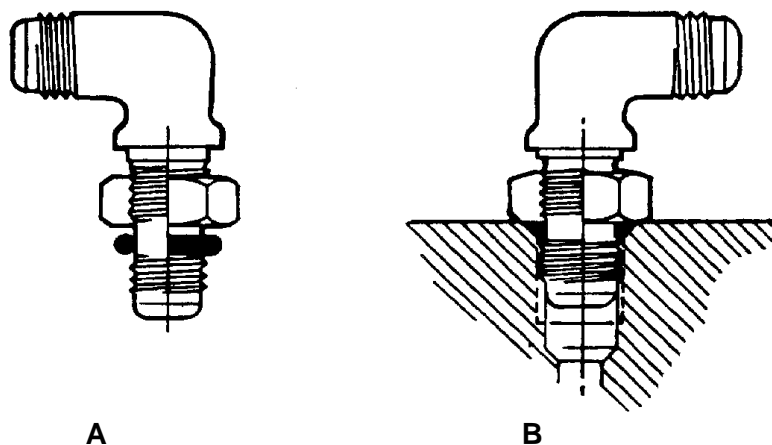

**Figure 1 - Positioning-Type Fittings for Hydraulic & Pneumatic Systems**
- Step 2. Assemble the ring and o-ring on the fitting as shown in Figure 1\(A\), with the smooth side of the ring towards the gasket.
- Step 5. Screw the fitting into the threaded hole, allowing the nut to rotate freely with the fitting until the o-ring gasket comes in contact with the chamfered edge of the threaded holes (see Figure 1\(B\)).
- Step 7. Holding the fitting in the correct position, tighten the nut with a wrench or torque wrench according to section 5.5. Slight extrusion of the gasket is acceptable (see Figure 1\(C\)).